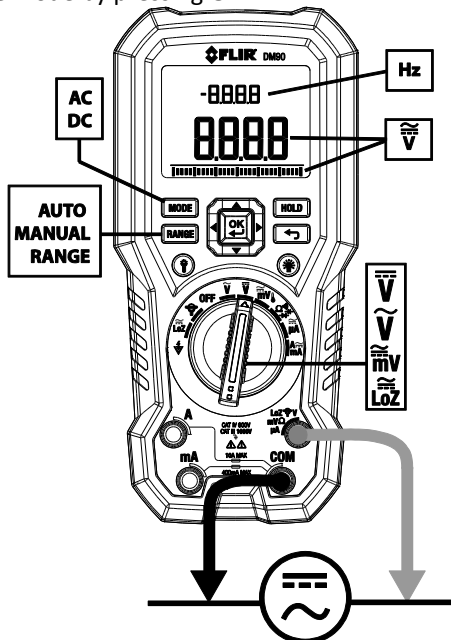

Fig. 5-1 Voltage and Frequency Measurements
1. Refer to the Fig. 5-1 below.